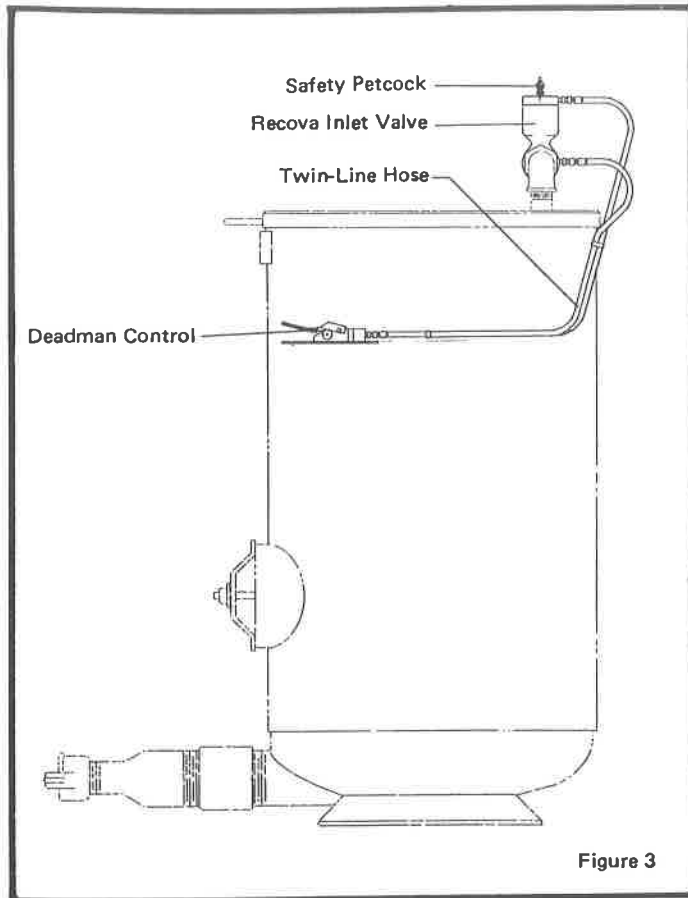

Figure 3
5.1 Recova-Lok Control Valve (Figure 3). To install, unscrew the existing manual valve and replace it with the Recova inlet valve. Connect the deadman control to the inlet valve by means of the twin-line hose provided. Either leg of the hose can go to either fitting on the deadman control. The safety petcock on top of the inlet valve must be closed; otherwise the system won't work. To open the inlet valve, press in the safety button on the side of the deadman control and depress the handle. To close the inlet valve, release the handle.